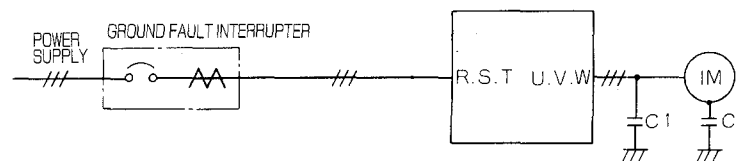

Fig. 4.17 Installation of Ground Fault Interrupter
- (9) When a ground fault interrupter or leak relay is used, it must be well-balanced and placed in the power supply line as shown in Fig. 4.17.